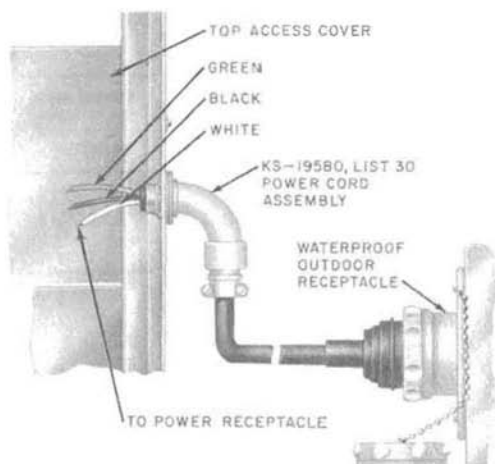

Fig. 4—Power Entrance at Top of Booth
2.06 Fig. 4 and 5 are typical outdoor power connections.